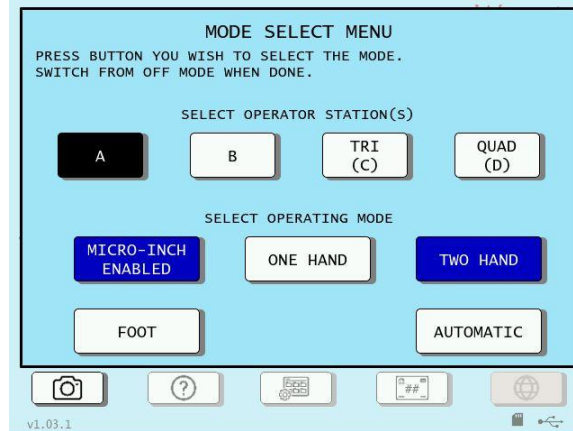

Figure 5-16. Mode Select Menu
1. With the PROG/RUN key switch turned to RUN, Turn the Stroke Select Switch to OFF. The Mode Select Menu appears, Figure 5-16, page Figure 5-1221234.